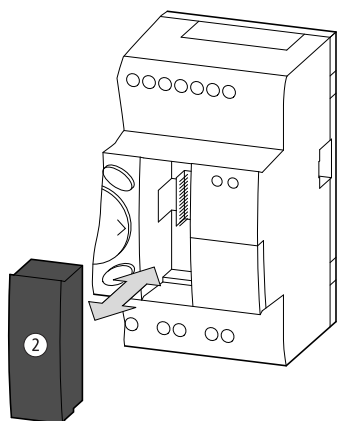

Figure 64: Connecting and removing the memory card ②
- ▶ Remove the cover from the interface and connect the connector memory card → Figure 64, page 66.